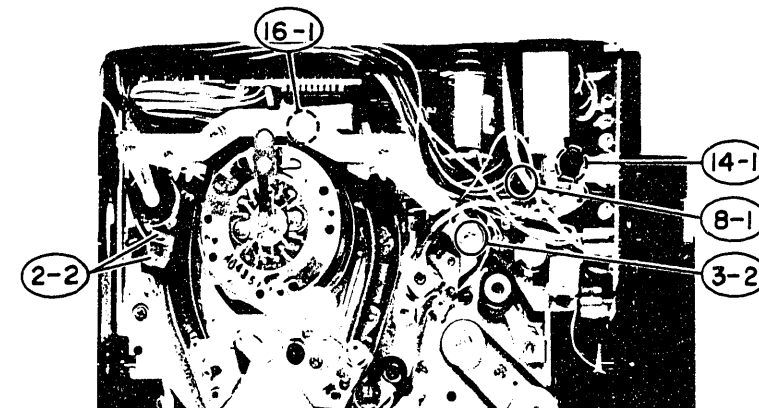

Fig. 22
2. FE head (Fig. 22)
3. AC head (Fig. 22)
8. Loading motor driver PC Board (Fig. 22)
14. RF converter (Fig. 22)
16. Head switch PC Board (Fig. 22)